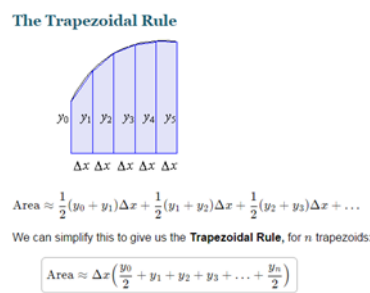

Figure 24 Trapezoidal Rule
- ii Evaluate total area below 0 volt by using Trapezoidal Method Area Calculation (refer to Figure 24)